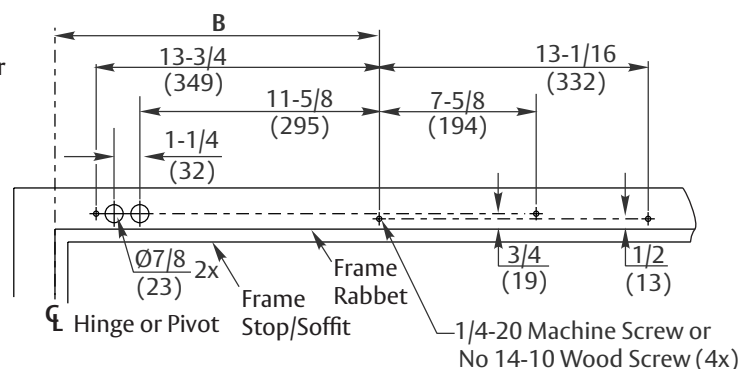

Figure 3 Left Hand Shown
4. Using detailed template on page 15, prepare four (4) holes for 1/4-20 x 1/2" machine screws or #14-10 x 2-1/2" wood screws. Blind rivet nut (by others) is suggested for unreinforced hollow metal or aluminum frames. (Figure 3)
5. For concealed mounted conduit (if applicable): Prepare two (2) 7/8" (22mm) diameter holes for conduit, for power input and for switch/sensor wires.